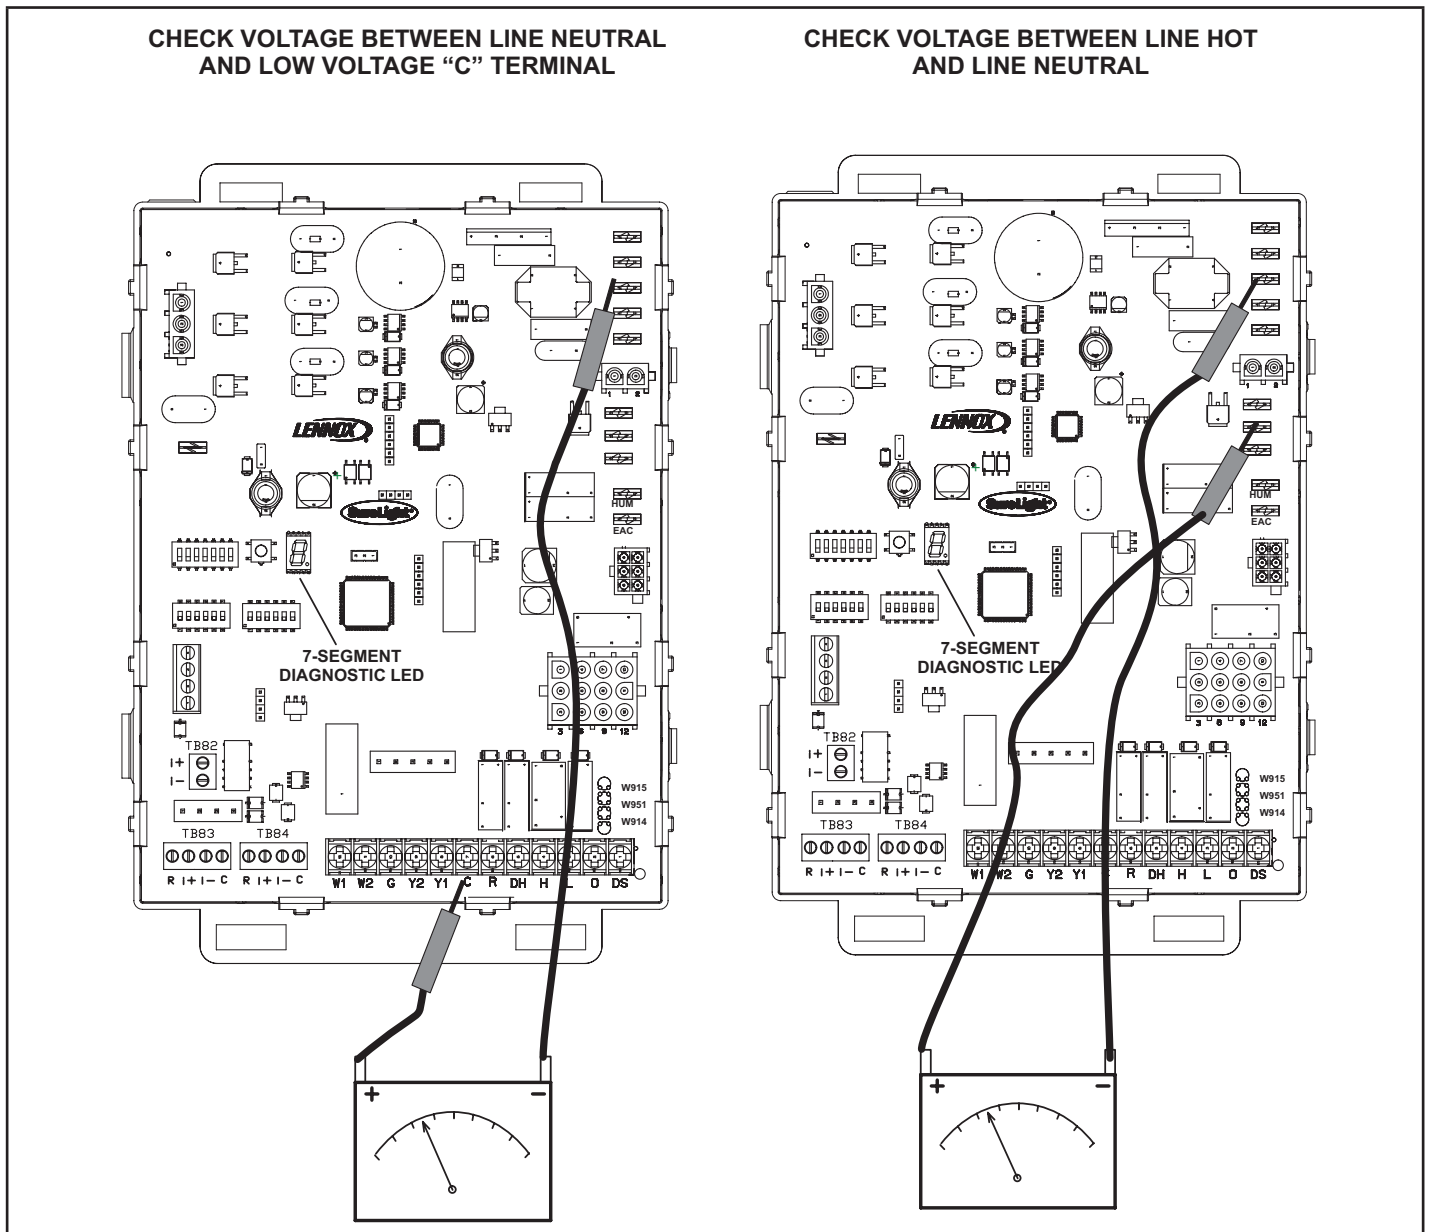

FIGURE 51
- 1 - Measure the AC voltage between Line Neutral (spade terminals) and "C" terminal (low voltage terminal block) on the integrated control. See FIGURE 51. A wide variation in the voltage between Line Neutral and "C" as a function of load indicates a poor or partial ground. Compare the readings to the table below. If the readings exceed the maximum shown in TABLE 34, make repairs before operating the furnace.
- 2 - In addition, measure the AC voltage from Line Hot to Line Neutral (spade terminals) on the integrated control. See FIGURE 51. This voltage should be in the range of 97 to 132 Vac.